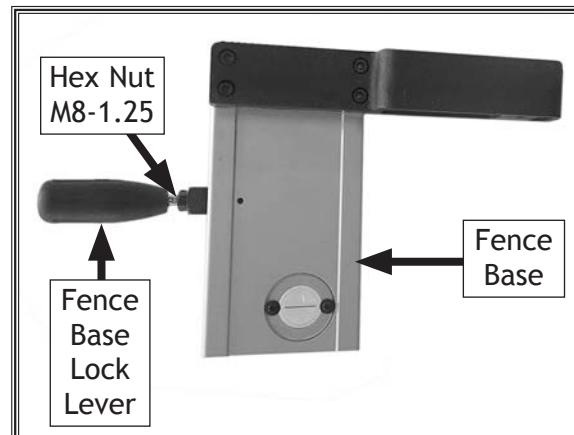

Figure 26. Fence base lock lever installed.
10. Thread (1) M8-1.25 hex nut onto fence base lock lever, install lock lever onto fence base, then tighten hex nut to secure (see **Figure 26**).